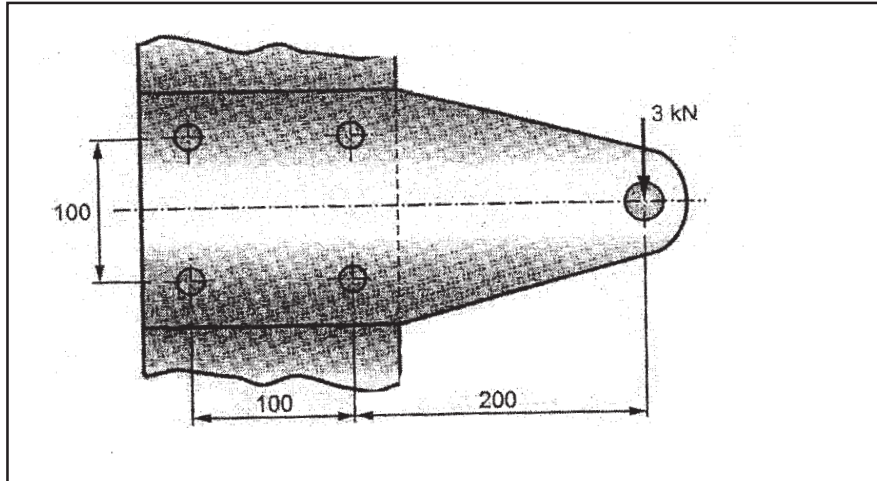

Fig. 1
- b) A steel plate subjected to a force of 3 kN and fixed to a vertical channel by using four identical bolts as shown in figure 1. The bolts are made of plain carbon steel ( $S_{yt} = 380 \text{ N/mm}^2$ ). If factor safety is 2, find diameter of bolts. [12]